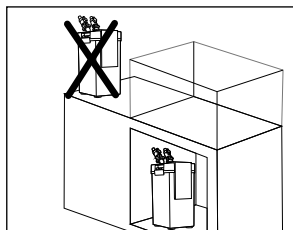

fig 1
N.B.: before carrying out any work or maintenance on your aquarium, disconnect all electrical appliances installed inside or outside of it. Check that the voltage indicated on the product corresponds to that of your power supply network. The Professional filter should be below the level of the aquarium when it is primed (fig. 1).